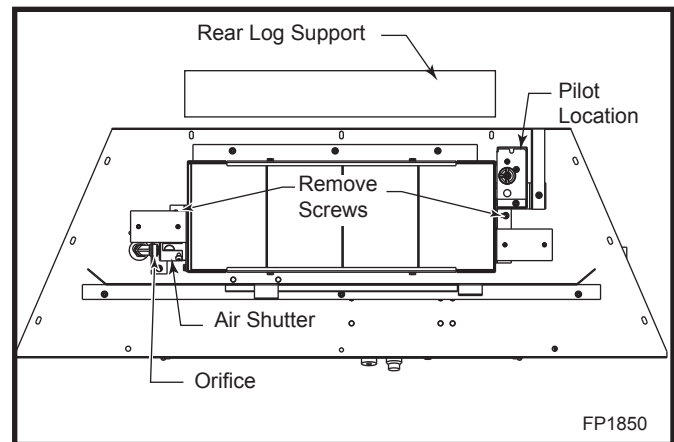

Fig. 52 RDV4136 burner assembly.
1. Remove two (2) burner screws. (Fig. 52)
2. Remove burner housing assembly. (Fig. 52)
3. Remove burner orifice from manifold assembly using 7/16" wrench. (Fig. 52)
5. Remove air shutters from burner pan by removing shutter retaining screw then air shutter. (Fig. 52)